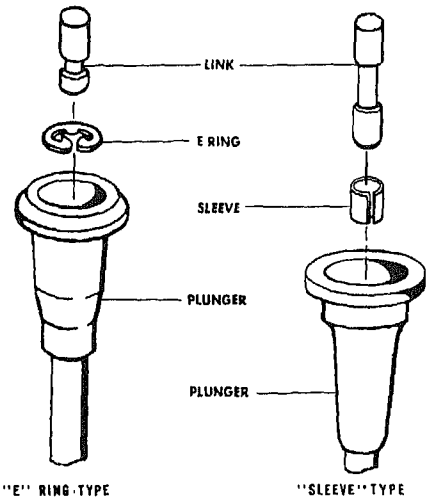

Fig. 6-1-18. Plunger link assemblies
4. Place new retaining ring on new plunger link and press link into place. Fig. 6-1-18. If sleeve type retainer, press retainer flush to .010 inch below bore surface.